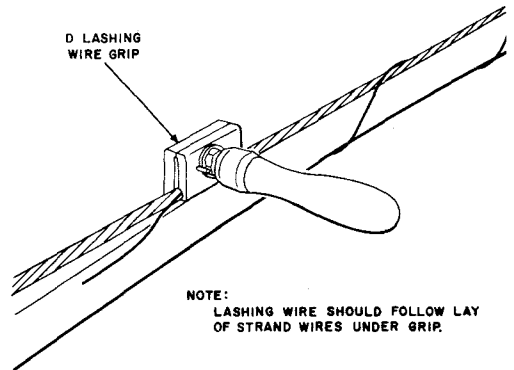

Fig. 1—D Lashing Wire Grip Installed on Strand
2.02 Position the D Lashing Wire Grip on 065 or 091 lashing wire on all sizes of strand and on 045 lashing wire on 6M, 6.6M, and 10M strand as shown in Fig. 1.
CAUTION - TEMPORARILY CLAMP THE FIRST (EXISTING) LASHING WIRE USING A D LASHING WIRE GRIP. (SEE FIG. 1 & 2). LOOSEN THE NUT AND TERMINATE THE SECOND LASHING WIRE BETWEEN THE FIRST AND SECOND WASHERS. THE COMPLETED JOB SHOULD APPEAR AS SHOWN ABOVE.